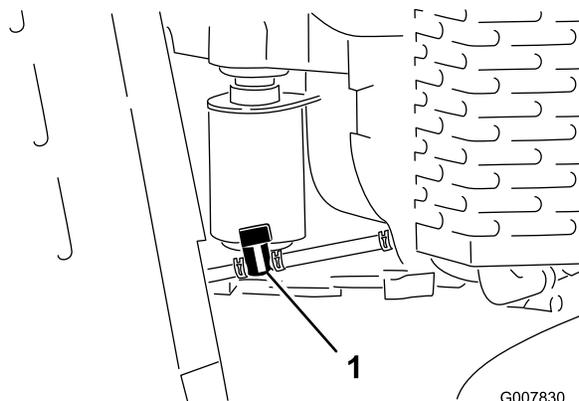

Figure 36
3. Turn the fuel-shutoff valve to the closed position (Figure 36).
4. Squeeze the ends of the hose clamp on the engine side of the valve together and slide it up the fuel line away from the valve (Figure 36).
5. Pull the fuel line off the valve (Figure 36).